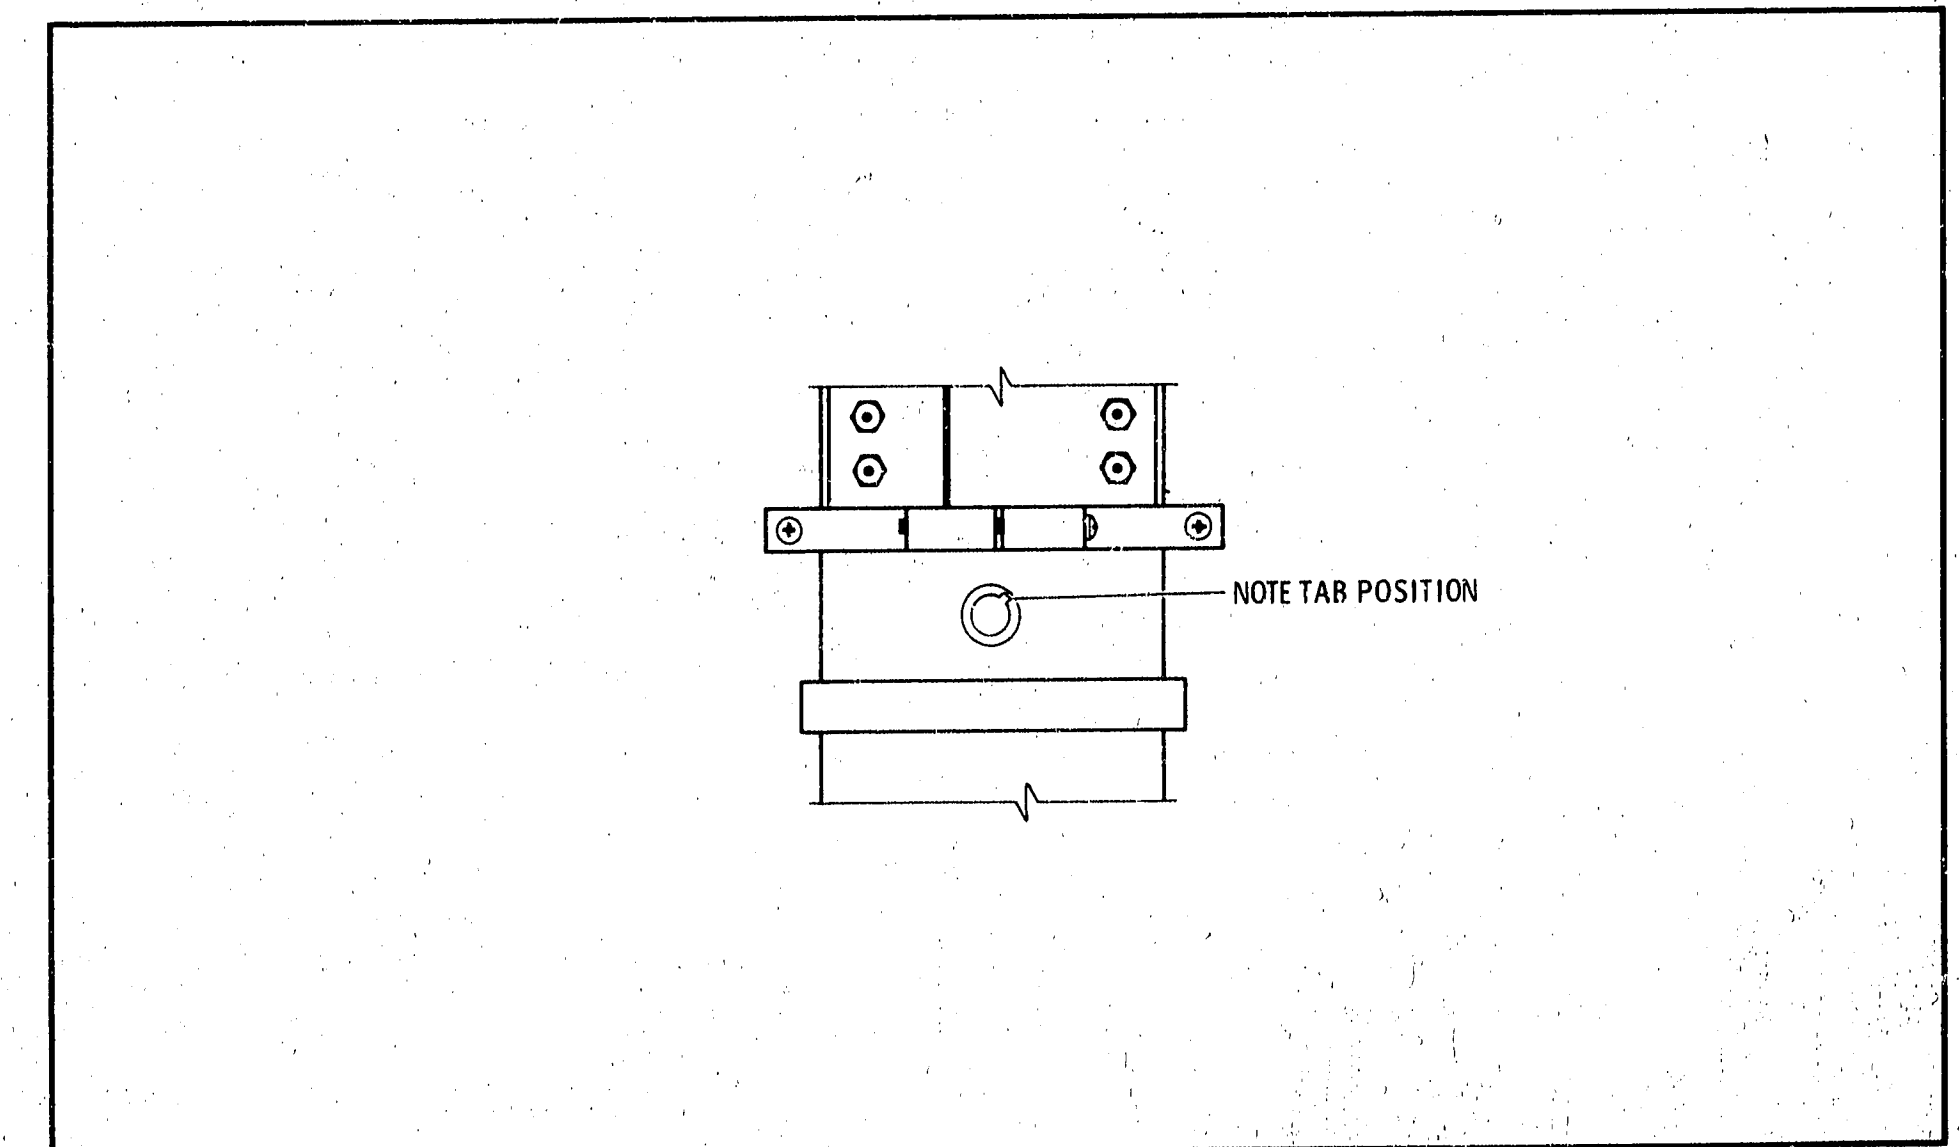

Figure 8-86. RF Oscillator Transistor Orientation
4. Re-insert transistor as shown in Figure 8-86. Replace transistor cap (22) including the two RFI plugs (23 and 24).
5. Connect power meter and sensor (HP 435A/8482A) to the Divider/Filter Buffer Amplifier output, A3A1J1 (32). Measure output power while tuning oscillator across range — it should always be within -1.0 to +3.5 dBm. If not, perform adjustment in paragraph 5-36.
6. Connect power meter sensor to the Counter Buffer Amplifier output, A3A1J2 (27). Measure output power while tuning oscillator across band — it should always be within -3 to +3 dBm. If not, perform adjustment in paragraph 5-36.